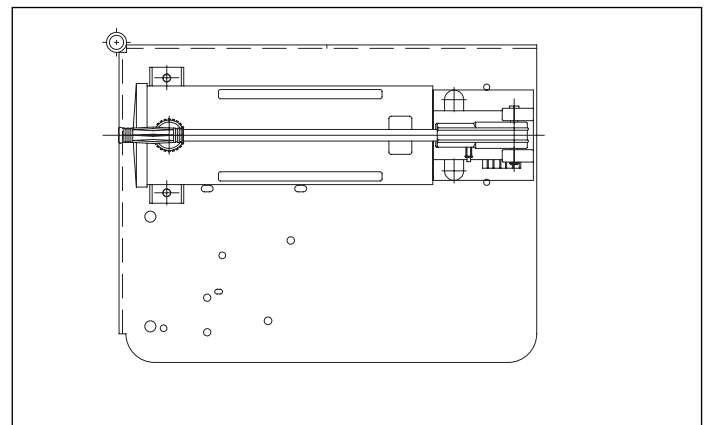

Figure 4, P-802 Hand Pump
3. Mount **Hand Pump** to table at four locations using provided hardware. Use brackets to fasten the pump head. See Figure 4.